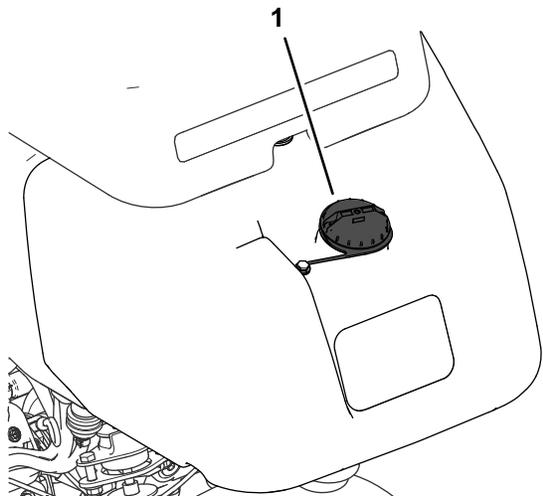

Figure 31
1. Clean around the fuel-tank cap and remove it (Figure 31).